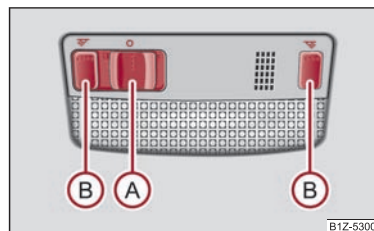

Fig. 39 Interior lighting with reading lights
- Press the switch **A** in the direction of the edge of the light, the symbol  => fig. 39 appears.